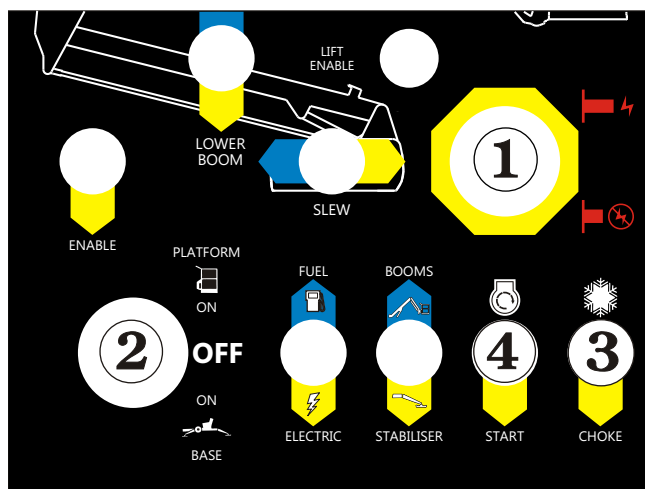

Figure 10.11 - Ground Control Box Starting
1. Set the **Emergency Stop** switch ① to ON (see Figure 10.11).
2. Insert the key and set the **Platform/Ground Selector** switch ② to GROUND (Base) (see Figure 10.11).
3. If the engine is at ambient temperature (cold), hold the **Choke / Cold Start Switch** ③ (see Figure 10.11) down throughout the next step.
5. Press down on the **Start Switch** and hold it there until the engine starts or for a maximum time of 6 seconds. When the engine starts release the start switch ④ and the choke switch ③, if you used it (see Figure 10.11).